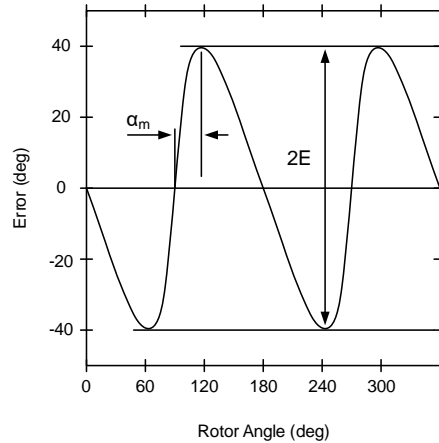

Figure 30: Error Curve in Side-Shaft Configuration with BCT = 0
The k ratio depends on the magnet geometry and distance to the sensor. If the k ratio does not equal 1, the sensor output response is nonlinear with respect to the mechanical angle. The error curve has the shape of a double sinewave, where E is the amplitude of this error (see Figure 30 on page 32).
Next, plot the error curve (the difference between the MAQ600A’s output and the real mechanical position vs. the real mechanical position) and extract two parameters: the maximum error (*E*), and the position of the maximum with respect to a zero crossing (α_M) (see Figure 30). In this scenario, the *k* ratio can be calculated with Equation (10):
Figure 30 shows the error curve.